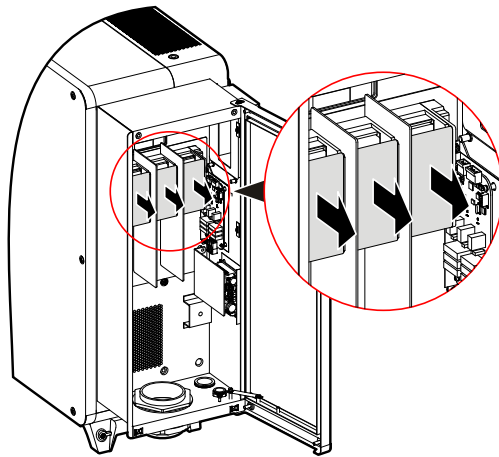

Figure3-32 Dismantle the AC wiring protective plate
Step 2 Dismantle the AC wiring protective plate, as shown in Figure3-32.